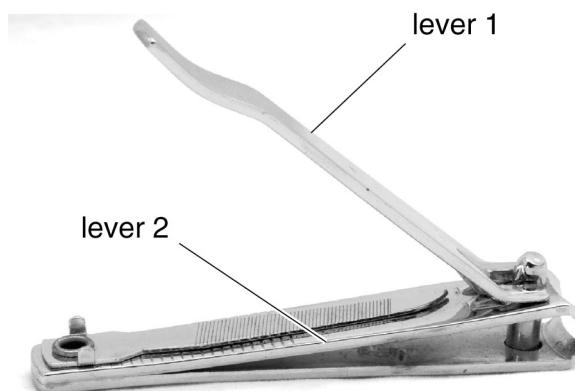

Fig. 3
- 2 (a) Fig. 3 shows nail clippers which are an example of a compound lever system.